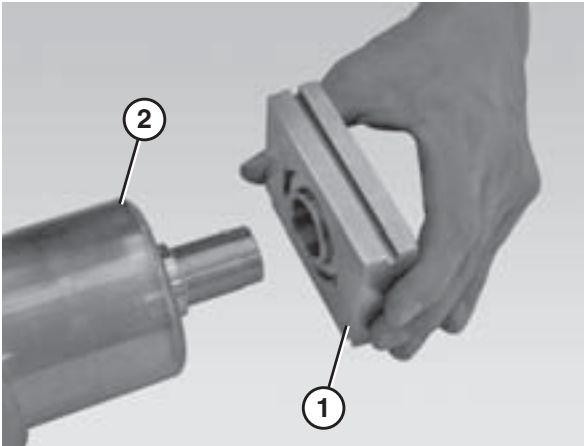

Figure 101
4. Slide the housing block (Figure 101, item 1) and bearing off of the tension spindle (Figure 101, item 2).